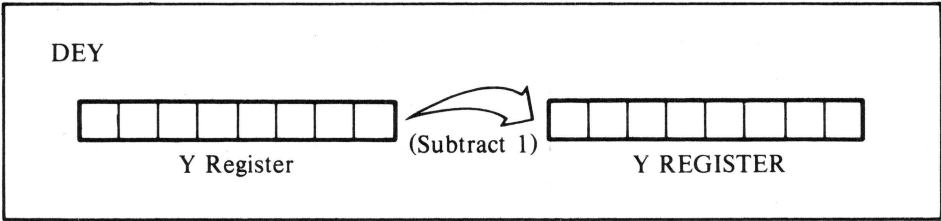

Figure 9-6. Decrement Y register quantity
- **DEY** — Decrements the quantity in the Y register (see Figure 9-6).